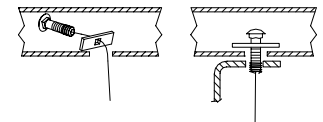

Figure 2.
1. Feed the carriage bolt and large spacer thru slots on bottom of frame rails using the pull wires, as shown Figure 2.